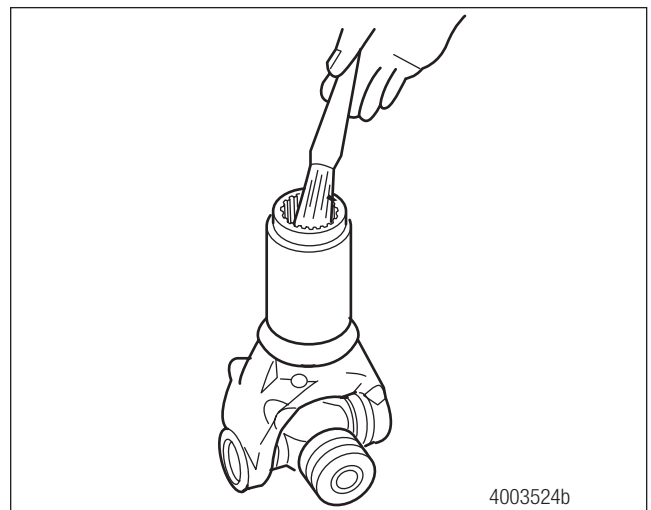

Figure 5.11
3. Use a brush to distribute lubricant on the splines. Figure 5.11.